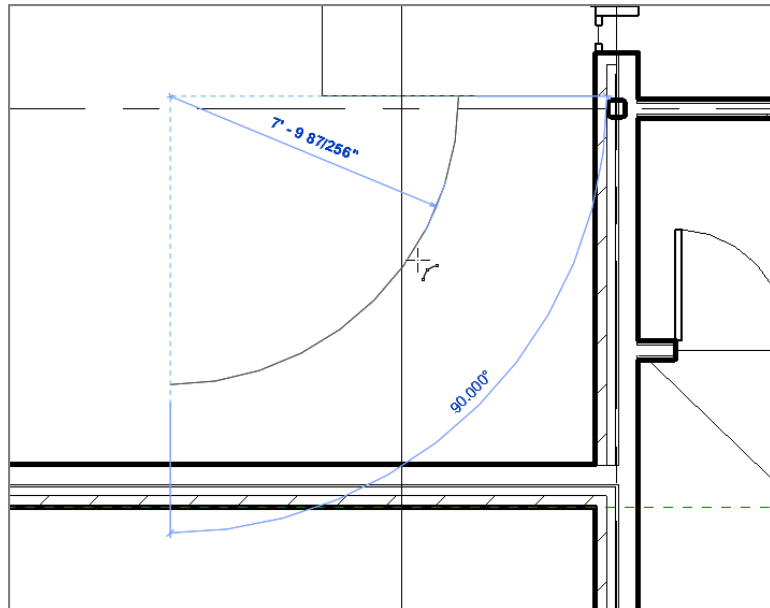

FIGURE 10.36: Picking the third point to form the arc. It will be tangent upon the first two points you picked.
6. Extend your cursor $11'-0"$ (3300mm), as shown in Figure 10.36, and then click to set the second point.
7. To form the arc, move your cursor to the right until the radius snaps into place. When it does, pick the point as shown in Figure 10.36.